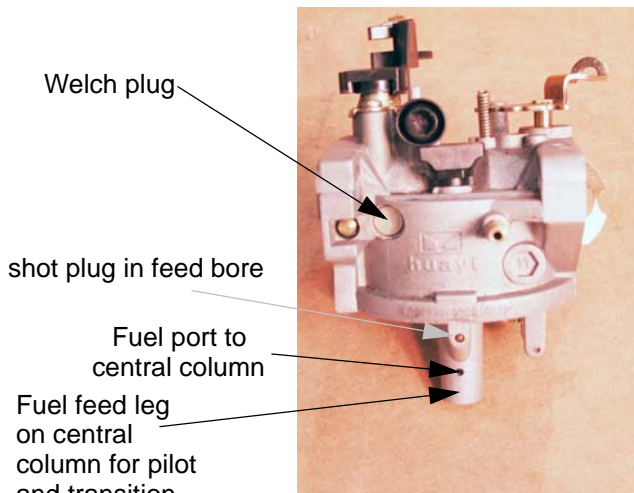

Figure 4.17
10. The throttle stop screw has a large pliable lip around the head of the screw. That lip secures a metering plug for the pilot and transition ports. Remove the screw to reach the plug. See Figure 4.17.